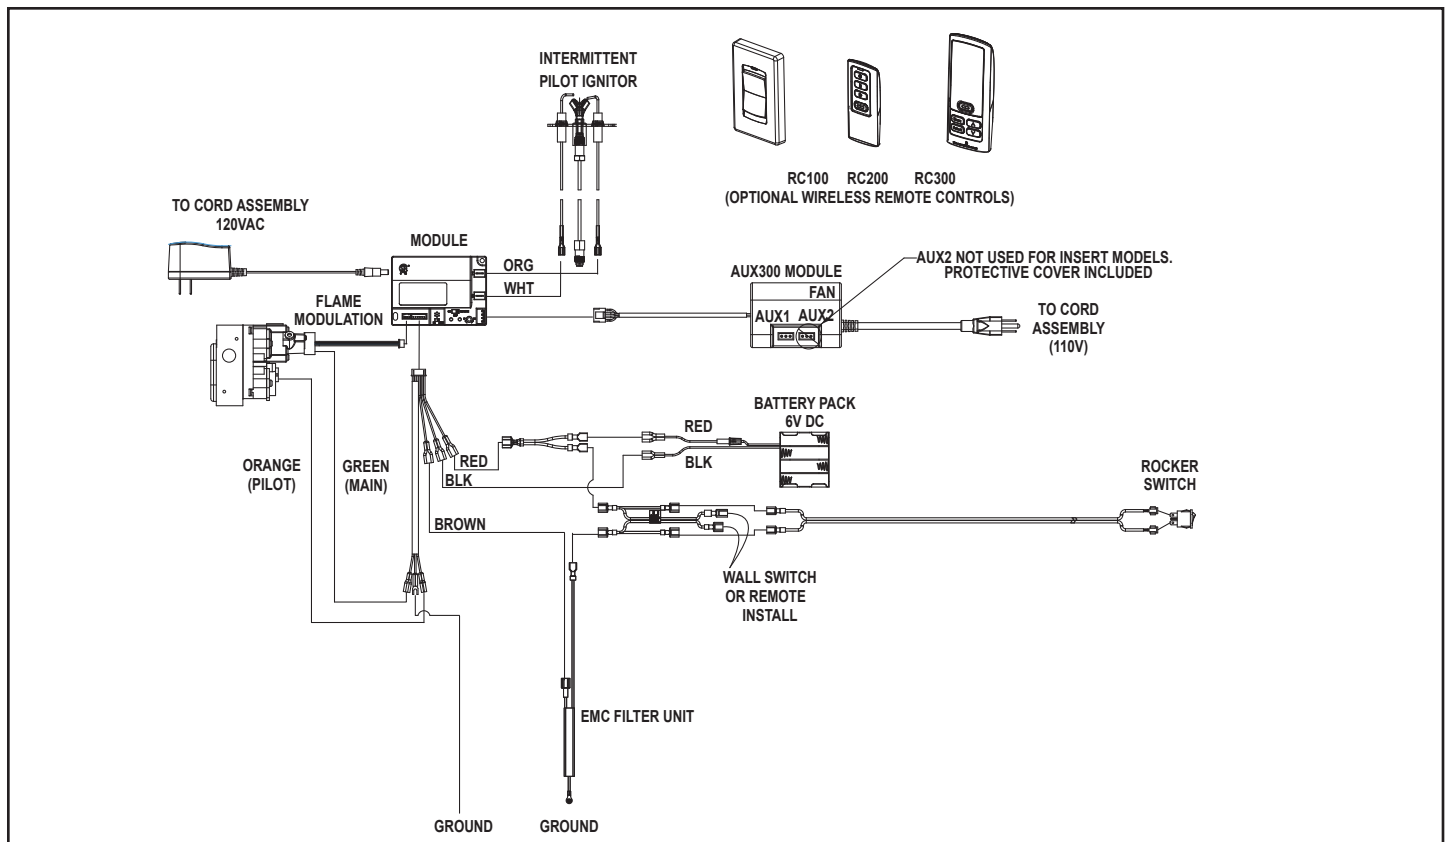

Figure 10.1 IPI Wiring Diagram
- This appliance comes standard with a 110-120 VAC cord assembly which has a female plug in to accommodate all control options and accessories. See Figure 10.1. This is required for proper operation of the appliance (IntelliFire Ignition). An outlet box may be installed in a bottom back corner of the existing solid fuel masonry or factory built fireplace to plug in the cord assembly, or the supplied power cord may be routed out onto the hearth to a nearby outlet.
- Refer to Figure 10.1, IPI Wiring Diagram.
- If desired an additional wall switch or thermostat may be added to system as shown in Figure 10.1.